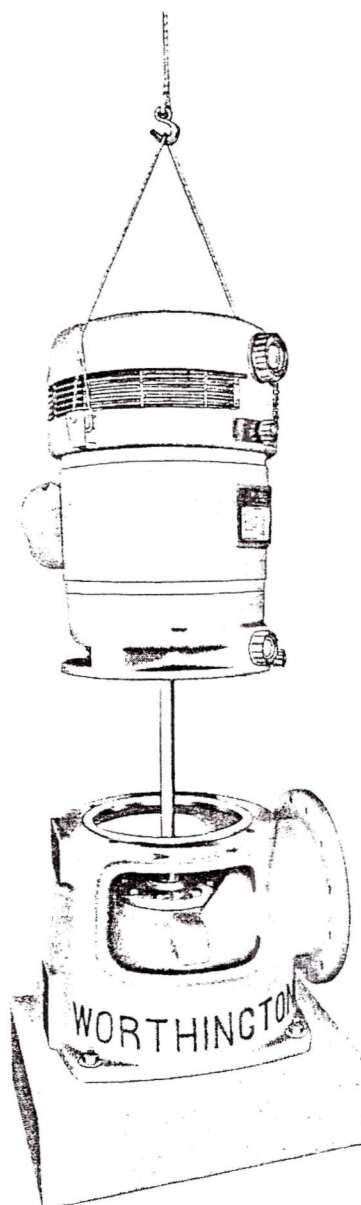

Figure 3-2. Hollow Shaft Motor Installation
- d. Slowly lower motor onto pump head (figure 3-2) making certain that mounting holes in motor and pump head are aligned.
- g. Using a rope, take two half hitches around lineshaft, two half hitches around enclosing tube, and then two half hitches around column pipe (figure 3-2).